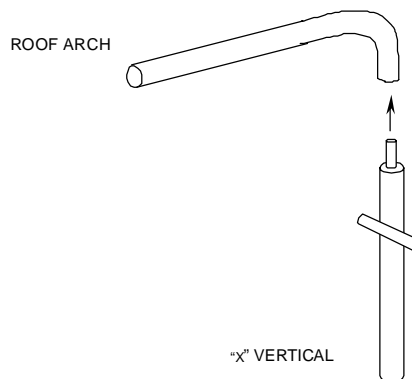

Figure 6. Center Arch Frame.
3. Assemble a roof arch and an “X” vertical as shown in Figure 6.
2. Assemble a roof arch and an "X" vertical as shown in Figure 6.